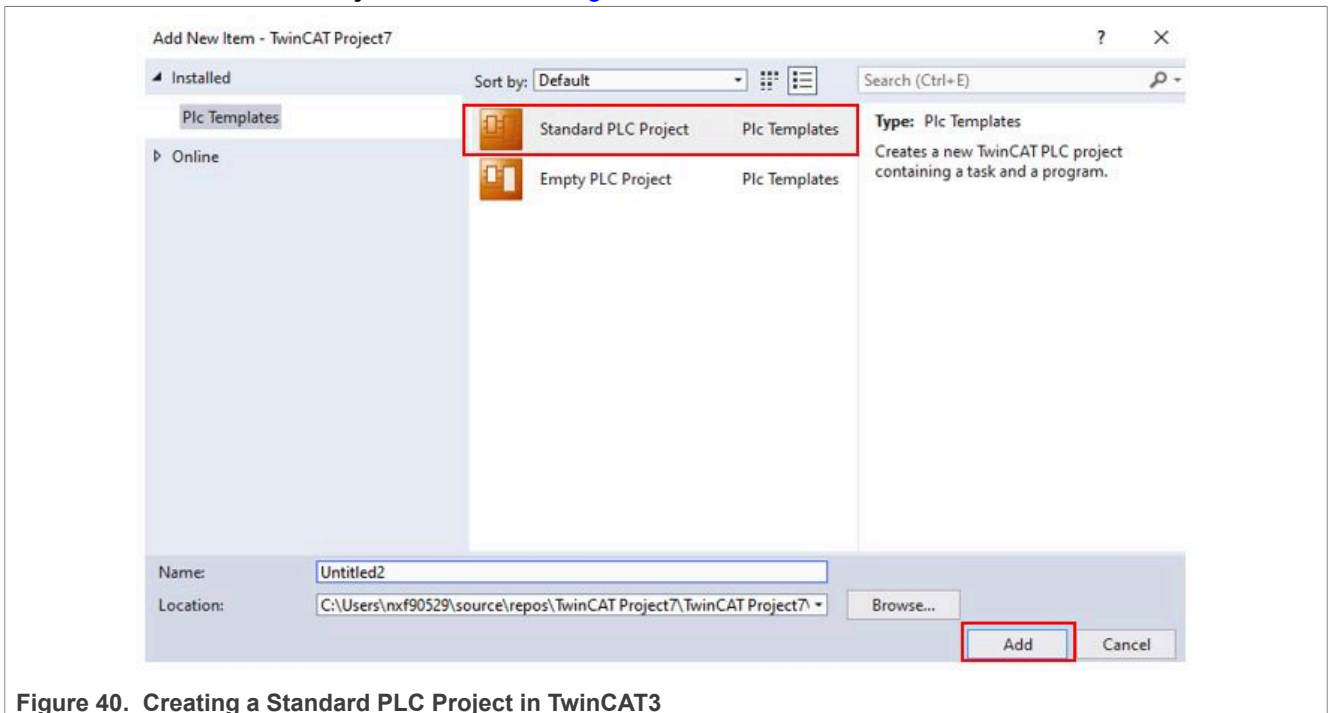

Figure 40. Creating a Standard PLC Project in TwinCAT3
2. Add a **Standard PLC Project**, as shown in Figure 40.